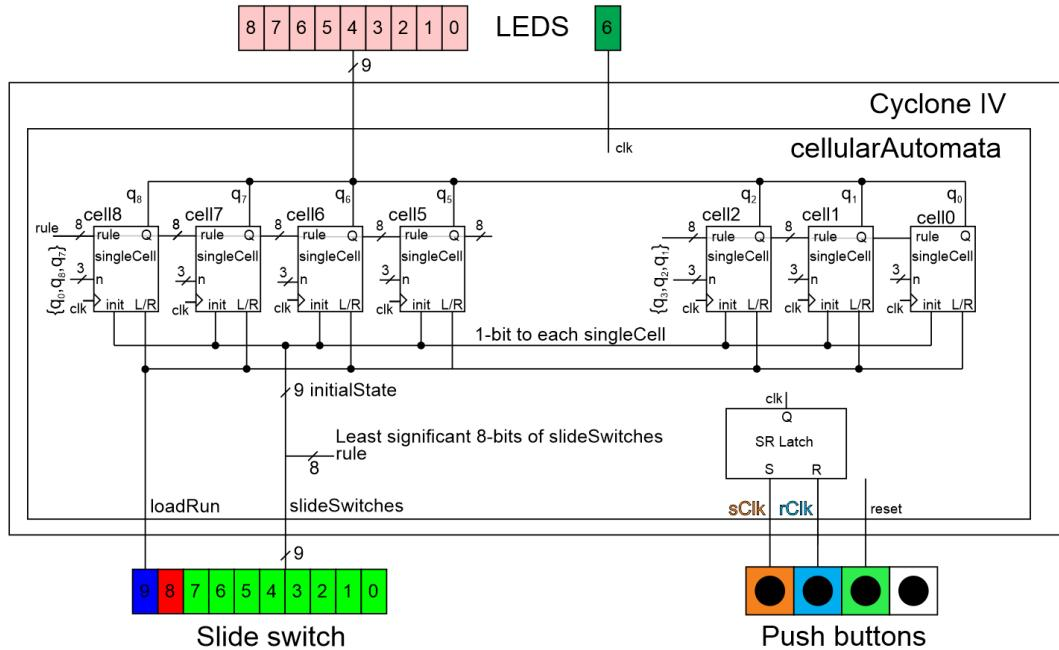
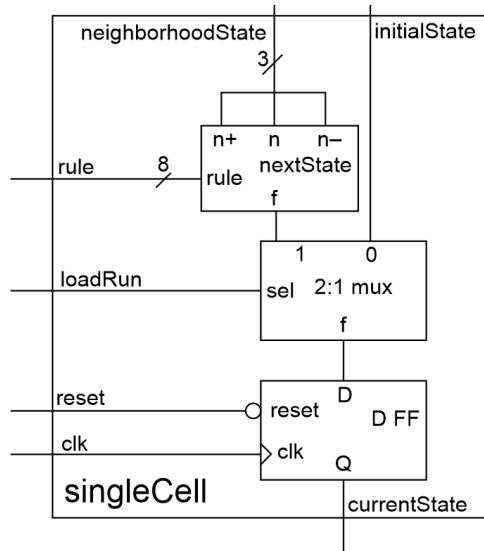

Figure 7.6: The system architecture of the cellularAutomata. Due to tight spacing, only the n inputs to cell8 and cell2 are shown.
Figure 7.7: The architecture and module interface for the singleCell module.
The system architecture shown in Figure 7.6 shows the overall organization of the cellular automata. Slide switches [0-7] are used as initial state when the **loadRun** slide switch is set to 0. When the **loadRun** slide switch is set to 1, slide switches [0-7] are used as the evolution rule. The clock is generated by the SR latch whose inputs are **sClk** and **rClk**. The state of the cells are displayed on the 9 red LEDs. The processing elements forming the array are called **singleCell** and discussed in the next section.
- Make cell 8 have cell 0 as its “left” neighbor in Figure 7.6
- Make cell 0 have cell 8 as its “right” neighbor in Figure 7.6
The significant design problem in today’s lab comes in this section, building the singleCell module. The module interface for the singleCell module in Figure 7.6 used some shorthand for the single names due to the space constraints. The internal organization and module interface for the singleCell module is shown in Figure 7.7. For example, the output currentState in this figure was called Q in Figure 7.6. You should be able to decipher the rest of the signal abbreviations used in Figure 7.6.
Table 7.2: The input/output relationship for the nextState functionality in Figure 7.7.